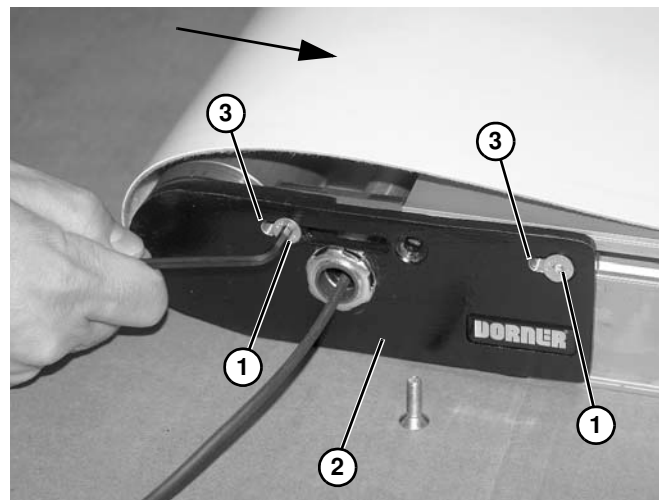

Figure 69
3. Loosen screws (**Figure 69, item 1**) from idrive head plate (**Figure 69, item 2**) (on each side of conveyor) to allow head plate assembly to slide in slots (**Figure 69, item 3**). Push head plate inward toward conveyor.